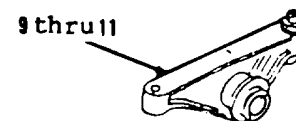

Figure 3-49.
6. Remove items 9 thru 11 as an assembly (Figure 3-49).